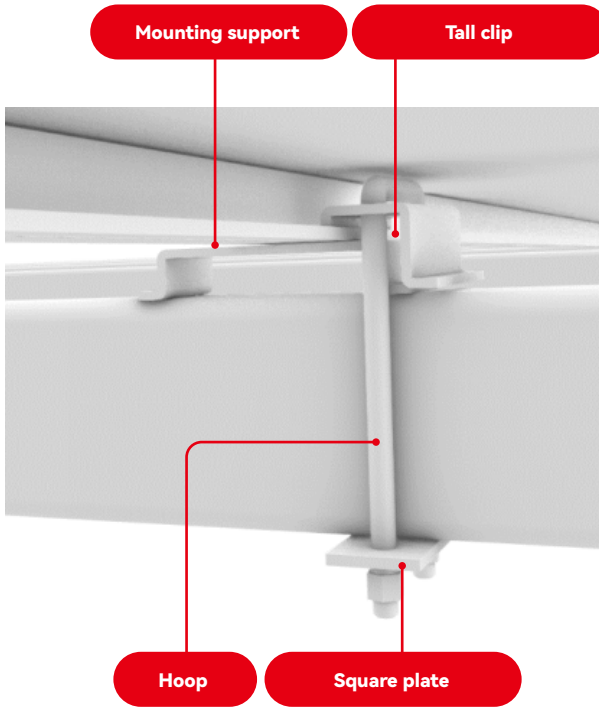
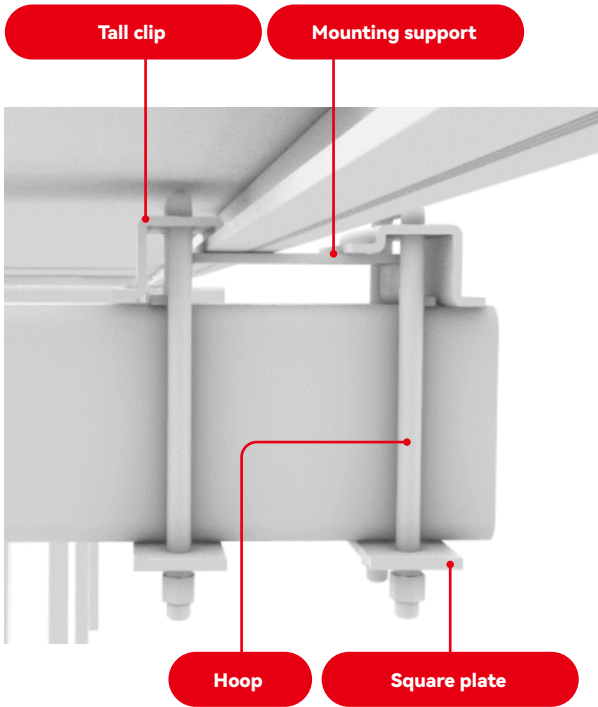

FIGURE 13
FIGURE 14
- Install the left-side support fitting assembly below the product (Figure 13). Place the bottom fastener assemblies into the groove of the product frame, and place the square plate at the opening of the hoop. Tighten the nut to fix the assembly onto the purlin. Similarly, install the right-side support fitting assembly (as shown in Figure 14). At this point, the first product has been installed.
- Place the second product's right side tightly against the left frame of the first product and align the top and bottom edges with those of the first product (Figure 13);